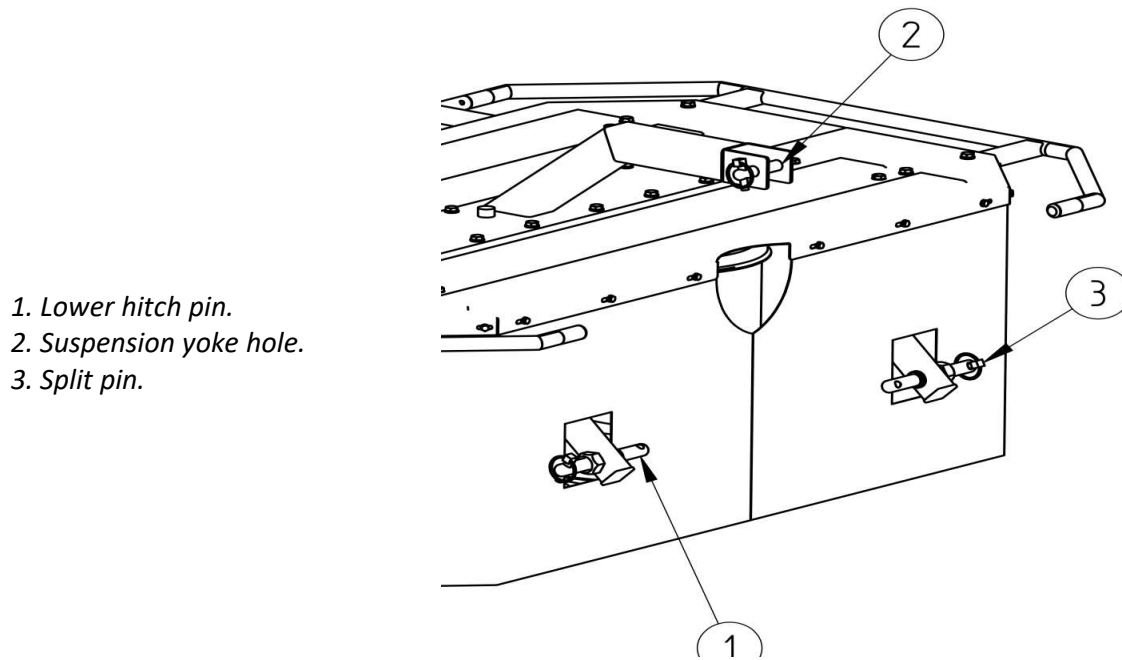

Fig 7 Mechanical mower hitch elements
1. Put the tractor link arms on the lower hitch pins (fig. 7 pos. 1) –left and then right - and secure with the split pin (fig. 7 pos. 3).
2. Put the top link end in the suspension yoke using the yoke hole and secure with pin and split pin (fig. 7 pos. 2).